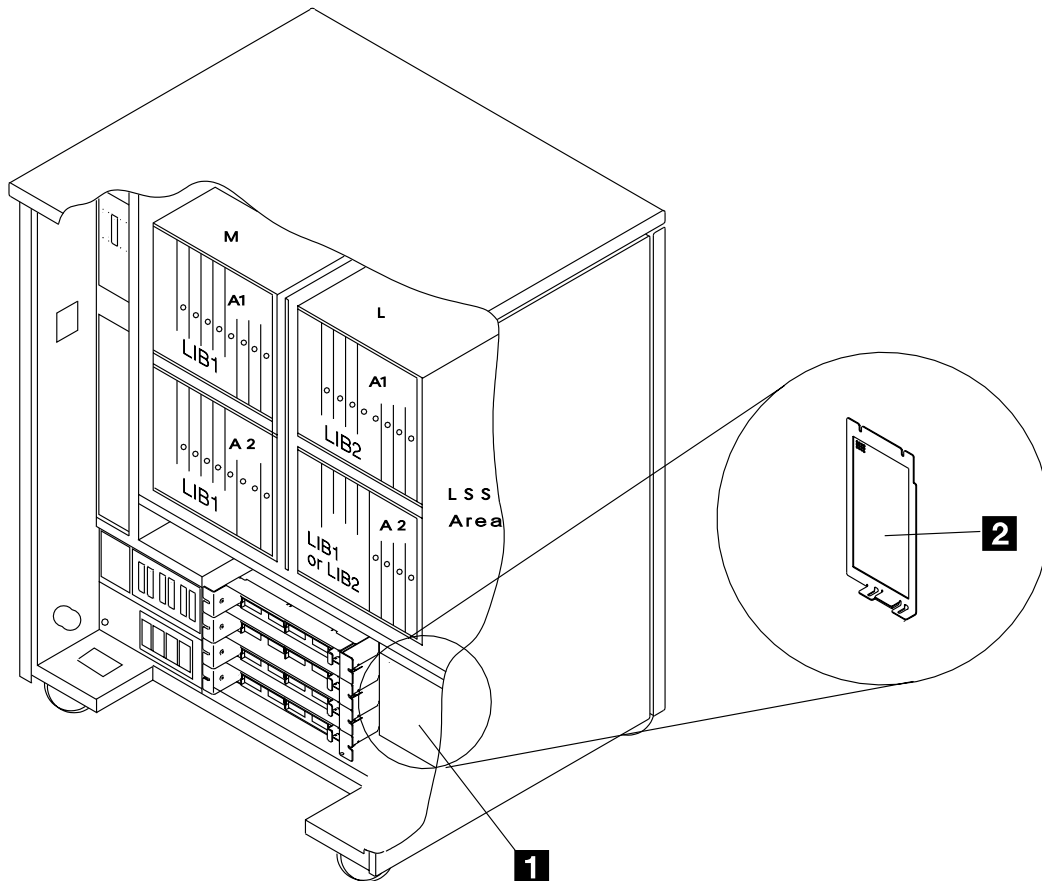

Figure 6-6. Basic Board Cover (Rear Model 17A)
Step 1. ____ At the bottom right rear of the 3745, locate the basic board 01G-A1 (see Figure 6-6).
Step 2. ____ Remove cover **1** (see Figure 6-6).
- Step 9. ____ Install the new cover **2** (PN 58G5305) in place of the cover removed in step 2 on page 6-7 (see Figure 6-6 on page 6-7).